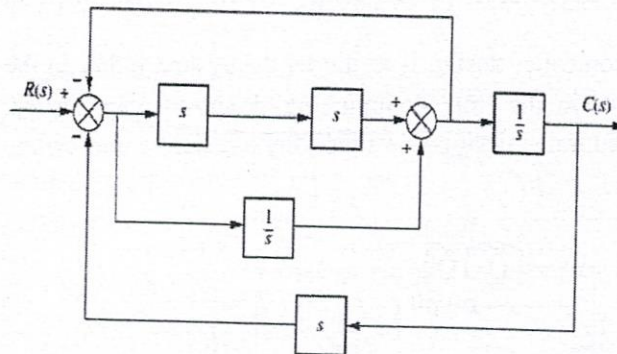

Fig.3. Block diagram of a system
- 2) b) Find the equivalent transfer function, $T_s = C_s/R_s$, for the system shown in Fig.3. Make your comments on the result. CO2 C5 5
- 3) a) Determine the range of gain, K, for the system of Fig.3 that will cause the system to be stable, unstable, and marginally stable. Assume, CO1 C5 5